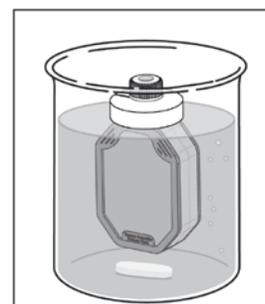

Figure 5. Dialyze sample.
- Dialyze for the amount of time sufficient to remove low molecular-weight compounds for the specific downstream application (Figure 5). Use a volume at least 10-20X the sample volume of new dialysis buffer at each change. A typical dialysis procedure is as follows: Dialyze for 2-3 hours at room temperature or 4°C . Change the dialysis buffer and dialyze for another 2-3 hours. Change the dialysis buffer and dialyze overnight. For devices containing a 2K MWCO membrane, perform this full dialysis procedure one additional time.